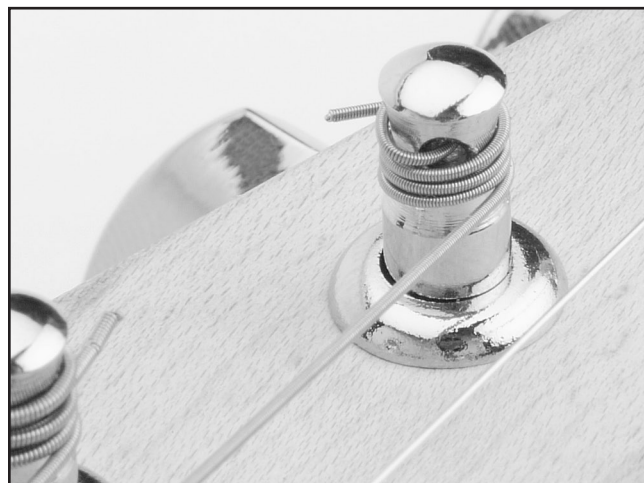

Figure 28. String wrapped around tuner.
6. Rotate the tuners until the string just begins to hold the winding tension (**Figure 28**).